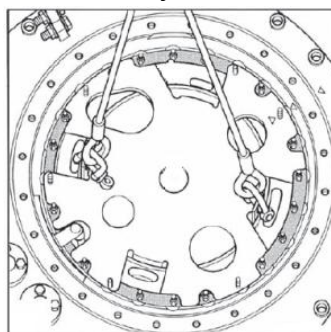

Figure 24
- (4) Carefully pull the diverter switch core vertically from the oil chamber (Fig. 24).